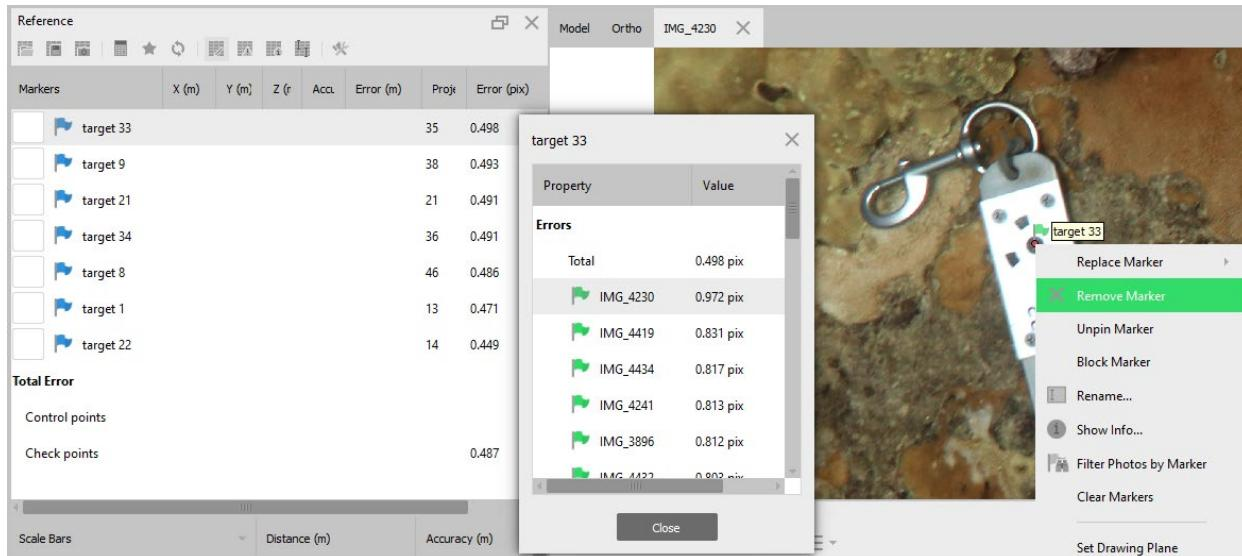

Figure 4.13 Agisoft Metashape screenshot highlighting target error dialog.
3. Look at the Error (pix) column in the Markers pane on the far right. Each marker error should be under or close to 0.5 pix, keeping 5 or more projections per marker (Figure 4.13).